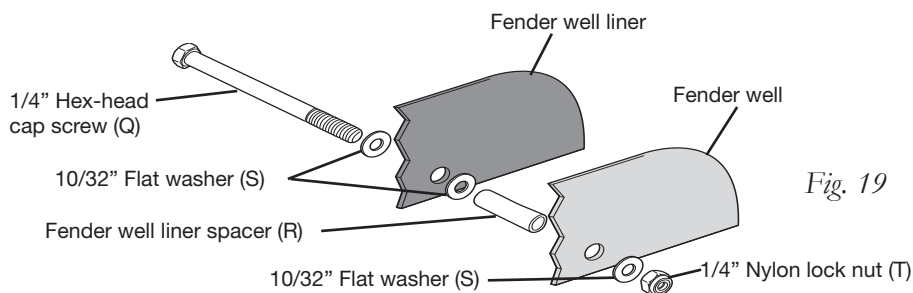

Fig. 19
2. Place the spacer between the fender well liner and the fender well at the center hole in the fender well liner (the hole nearest the air spring). Attach using the 1/4" hex-head cap screw (Q), the 10/32" flat washers (S), and 1/4" nylon lock nut (T) provided (Fig. 19).
Fasten the 1/4" hex-head cap screw with the washer and nut behind the fender well (Fig. 19). Tighten securely.